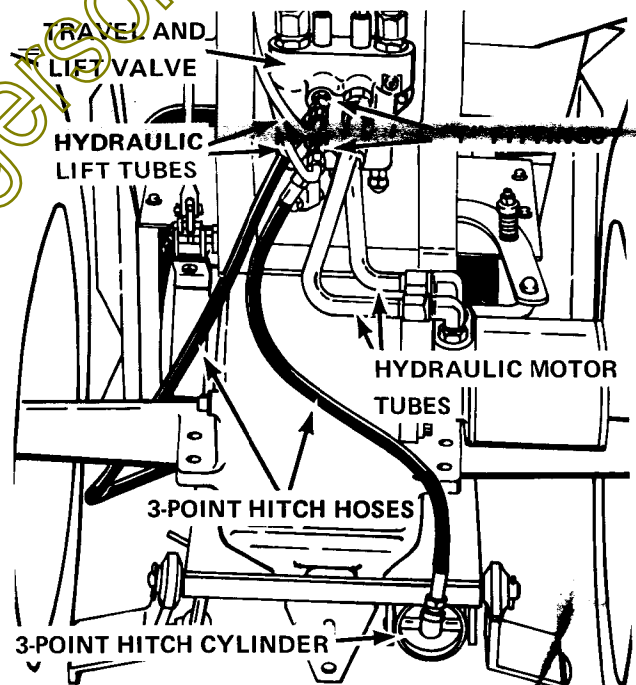

FIGURE 8
- *13. Turn the "T" fittings onto the lift port straight fittings of the valve. With the fittings facing toward the right rear corner of tractor as shown in Figure 8 tighten the swivels against the lift port straight fittings.